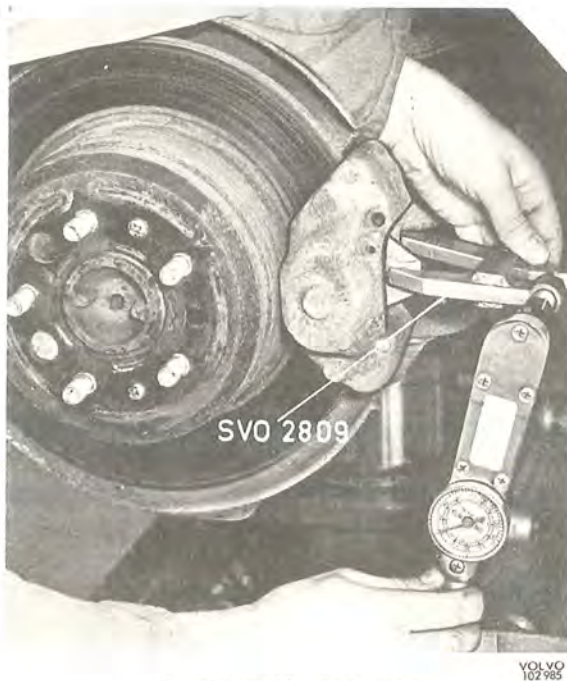

Fig. 5-17. Pushing in the piston
brake unit should be reconditioned. To provide space for the new brake pads, the pistons must be pressed into the cylinders with tool SVO 2809, see Fig. 5-17. It should be noted that the brake fluid level in the master cylinder will then rise and the brake fluid may possibly spurt out.
5. Press the pistons into the caliper with tool SVO 2809. When pressing in, check the function of the pistons in the A.S.B. device, see Fig. 5-17. The pressing-in force should be 20–80 kg/cm (17–70 lb.in.). If the force required is greater than this, the caliper should be reconditioned. Note that when pressing in the pistons, the brake fluid level in the brake fluid container will rise possibly causing the fluid to spurt out.